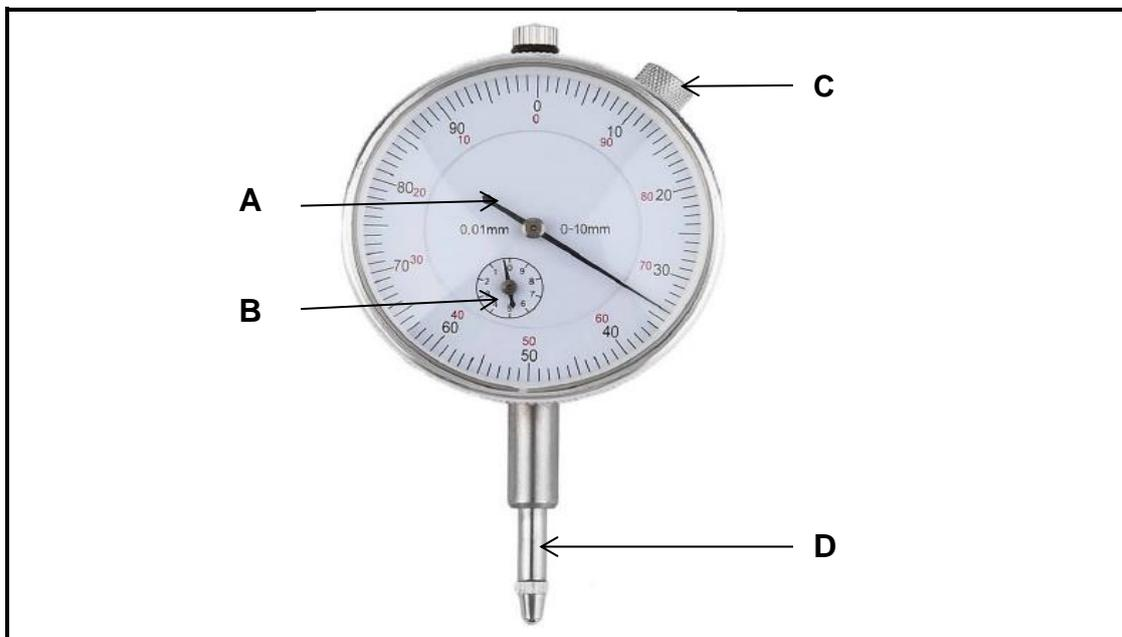

FIGURE 5.2
5.2 The tool in FIGURE 5.2 below is a dial indicator, label parts **A–D**.